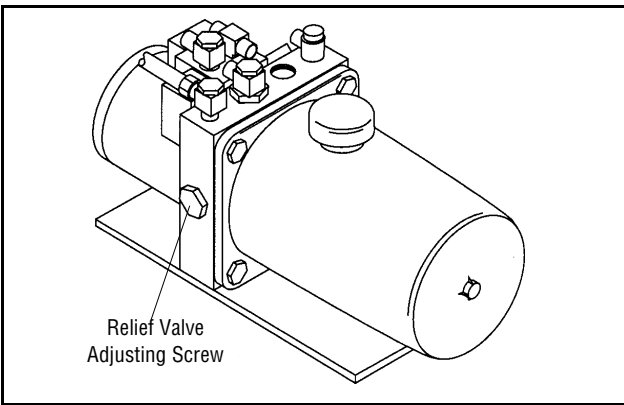

Figure 6-1. Hydraulic Pump Relief Valve
1. Remove cap from pressure test port located on pump pressure port banjo fitting (see Figure 6-1).